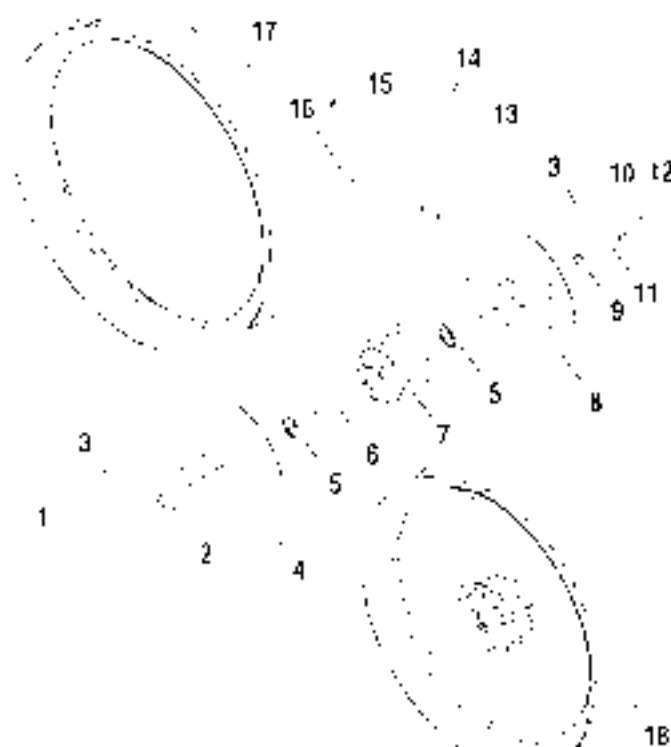

Figure 2-7 Laced Front Wheel
1. See Figure 2-7. Remove spacers (2, 9) from left and right sides.
- a. On left side of wheel, remove five screws (3) to detach left brake disc (8).
- b. On FXDX models, remove five screws (3) to remove right brake disc (4).
2. See Figure 2-7. If necessary, install brake disc(s) in their original positions. Verify that brake disc(s) is clean. Tighten fasteners to 16-24 ft-lbs (21.7-32.5 Nm).
- a. On left side of wheel, install five new screws (3) to attach left brake disc (8).
- b. On FXDX/FXDXT models, install five new screws (3) to attach right brake disc (4).